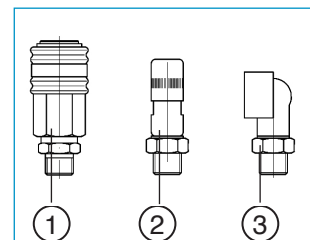

Fig. 14 Coupling pieces for packers
3. Mount the coupling piece (see Fig. 14) for the packers on the mixing unit's static mixer.